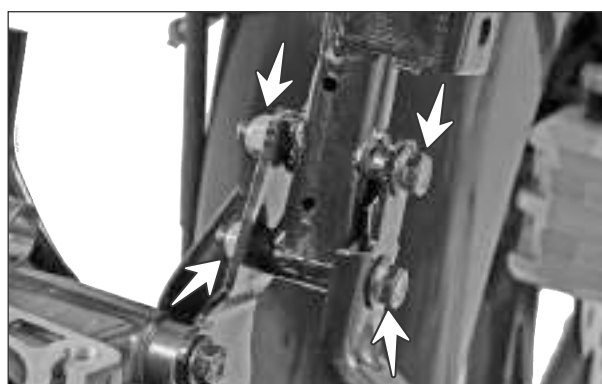

Fig. 3.135
- Remove the hexagonal flange bolt (M8x55 - 2 nos.) from the mounting of bracket crash guard RH and take out the bracket. (Fig. 3.135) 12 mm spanner